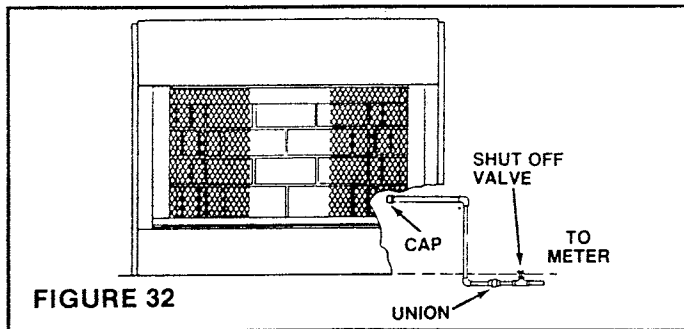

FIGURE 32
- 2) REMOVE THE CAP AT END OF GAS PIPELINE PROTRUDING FROM SIDE OF THE REFRACTORY. (SEE FIG. 32)